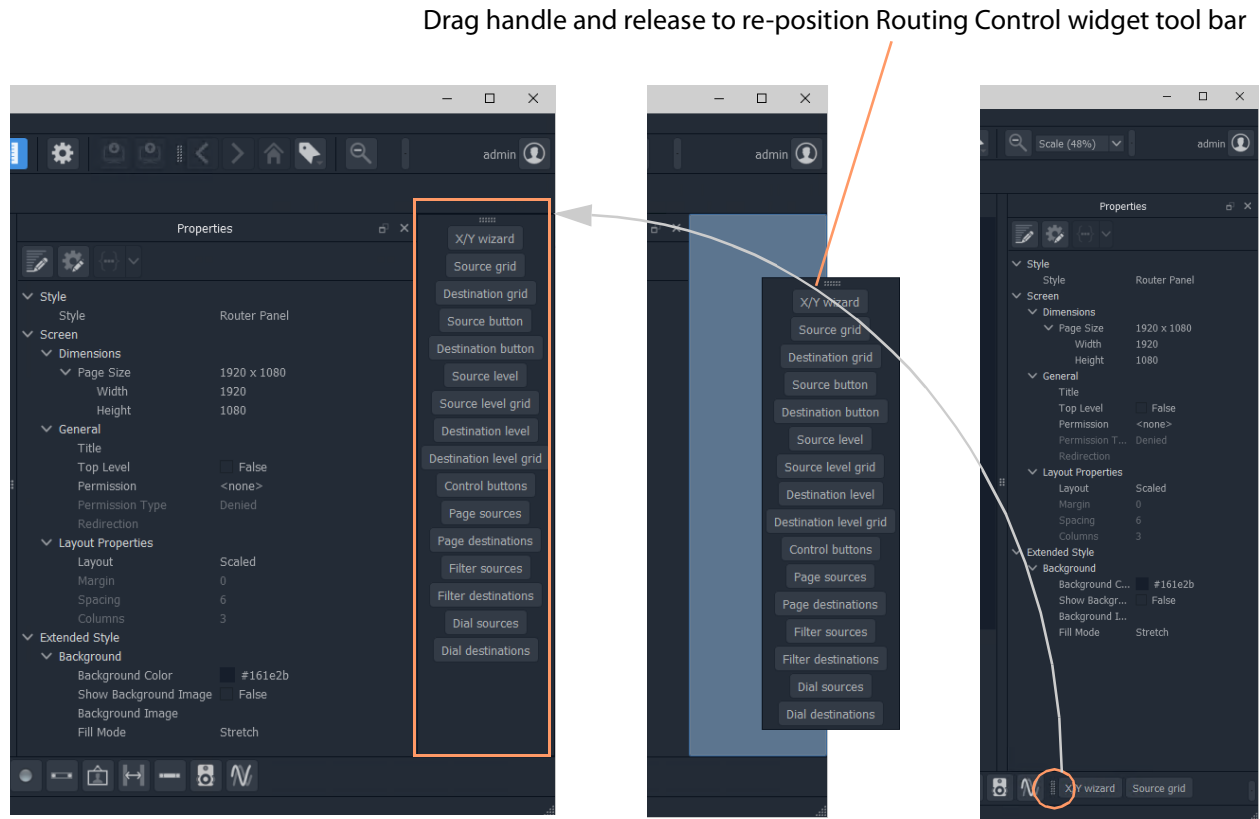

Fig. 6-40: Re-positioning the Routing Control Widgets Tool Bar
- 6 Drag the routing control widgets tool bar by its handle to a convenient position. See Figure 6-40.